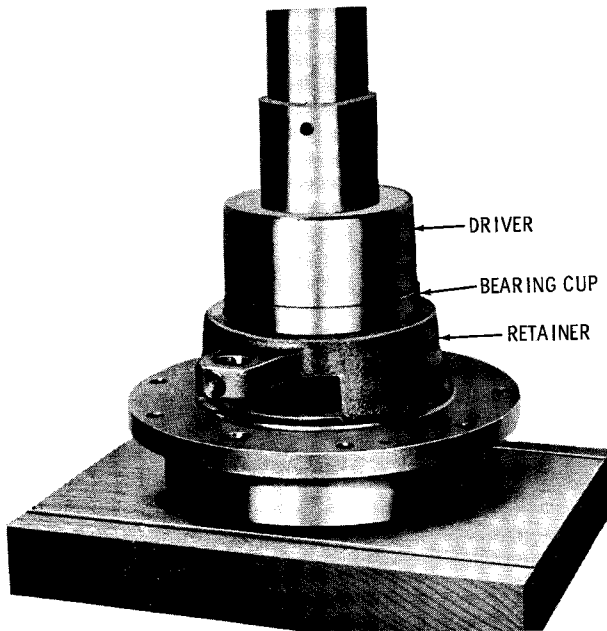

Fig. 6-11. Installing bearing cups into pinion gear bearing retainer (VH, VSI series)
(3) If bearing cups 18 (A, foldout 10) and 23 were removed, install the bearing cups into retainer 19, using a suitable driver and press (fig. 6-11).